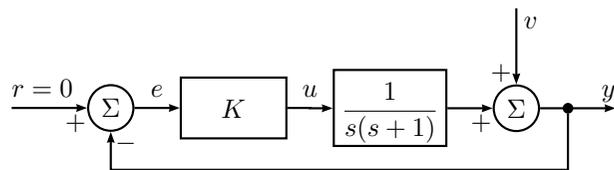

Figure 6.1a
- 6.1 Consider the control system in Figure 6.1a where $v(t)$ is a sinusoidal disturbance, $v(t) = \sin(t)$. Compute the absolute value of the sensitivity function at $\omega = 1$ rad/s as a function of K . How must K be selected if the amplitude of $y(t)$ shall be less than the amplitude of $v(t)$ at this frequency?